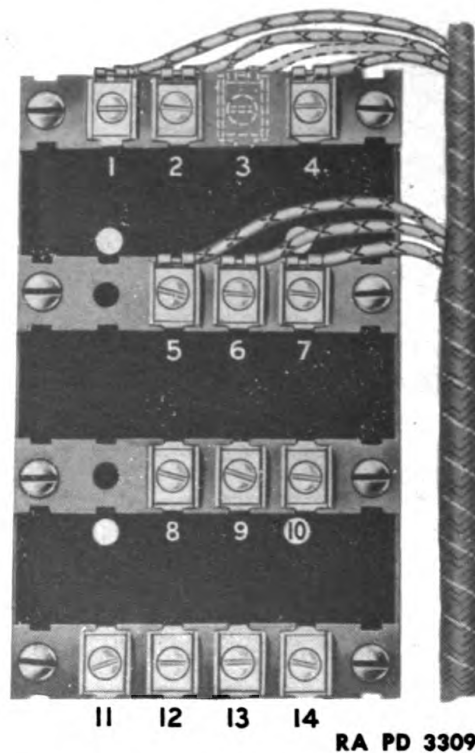

Figure 58—Chassis Front Wiring Harness Connections to Junction Block
(6) **JUNCTION BLOCK** (figs. 58, 59, and 60). The front and rear harnesses are connected to the body harness at the junction block on left side of dash under the hood. The terminals are not numbered, but for explanatory purposes, the terminals in the illustrations are numbered, and cross-referenced to the wiring diagram (fig. 48). In addition, the name of the circuit, and the color and size of the wires are given. These illustrations and explanations will simplify the replacement of the wiring harnesses, and checking the various circuits for short or open circuits.
b. Front Wiring Harness Connection Table (fig. 58).